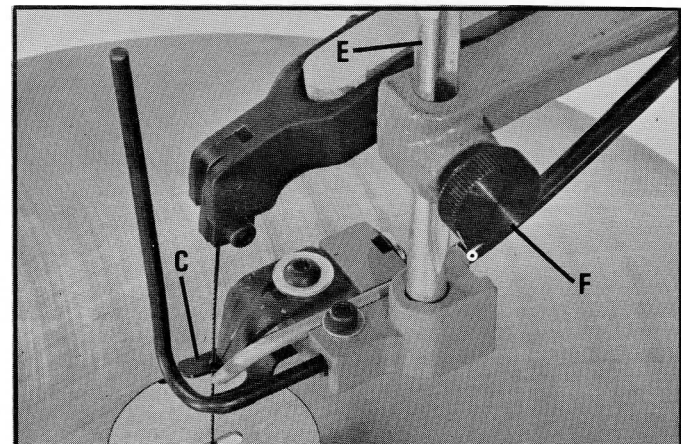

Fig. 23
The guide post (E) Fig. 23, is adjusted according to the thickness of the work by loosening knob (F) and moving the guide post up or down accordingly. Then tighten knob (F). The holddown spring (C) Fig. 23, should always be brought down as close to the work as possible. The maximum capacity under the holddown spring is 2". The capacity which can be cut with the table tilted will be less.